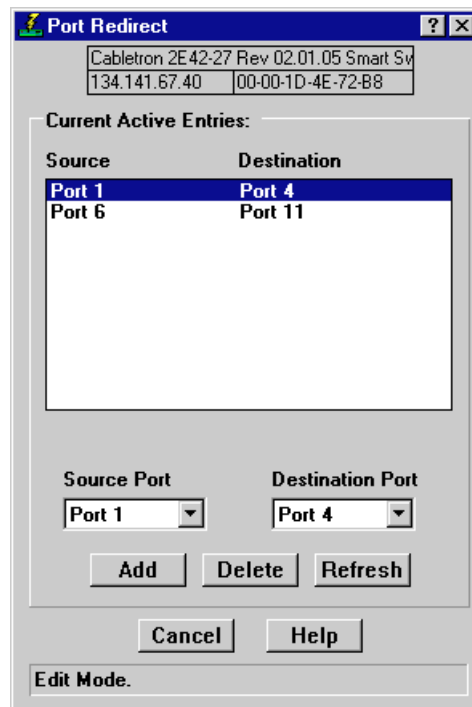

Figure 2-19. The Port Redirect Window
The Port Redirect window (Figure 2-19) allows you to redirect traffic from one or more interfaces directly to another interface — essentially mirroring the traffic at the “redirect” interface. This feature is useful in that it allows you to use an external analyzer on the “redirect” port to analyze data, without disturbing the normal switching operations at the original source ports. The Port Redirect window displays the interface remap table and allows you to add new entries to
2. Click **Port Redirector**. The Port Redirect window, Figure 2-19, will appear.